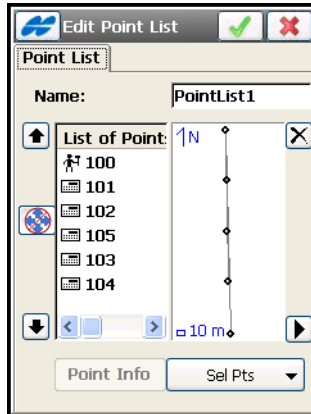

Figure 6-21. Add Point List – Point List Tab
- To edit a point list, select the point list and tap the **Edit** button on the *List of Pt Lists* screen. In the *Edit Point List* screen displays (Figure 6-21) and shows the Point List Name and selects the points for the list.
Adding a point to the Point List can be performed in two ways; either through the map or through the **Sel Pts** button (Figure 6-21).